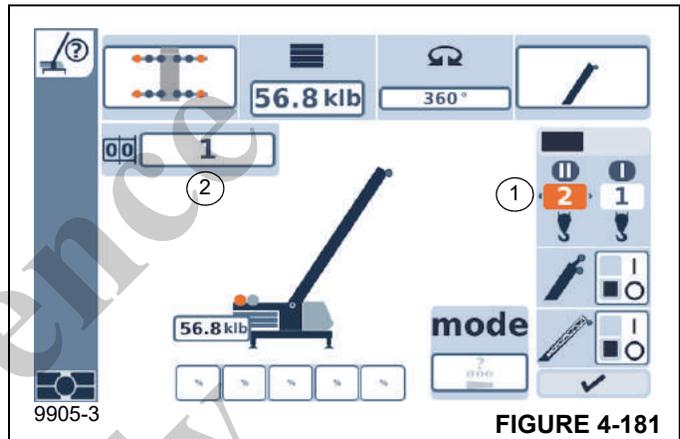

FIGURE 4-181
- Select and confirm the symbol (1, Figure 4-181) – arrows on the left and right are displayed.